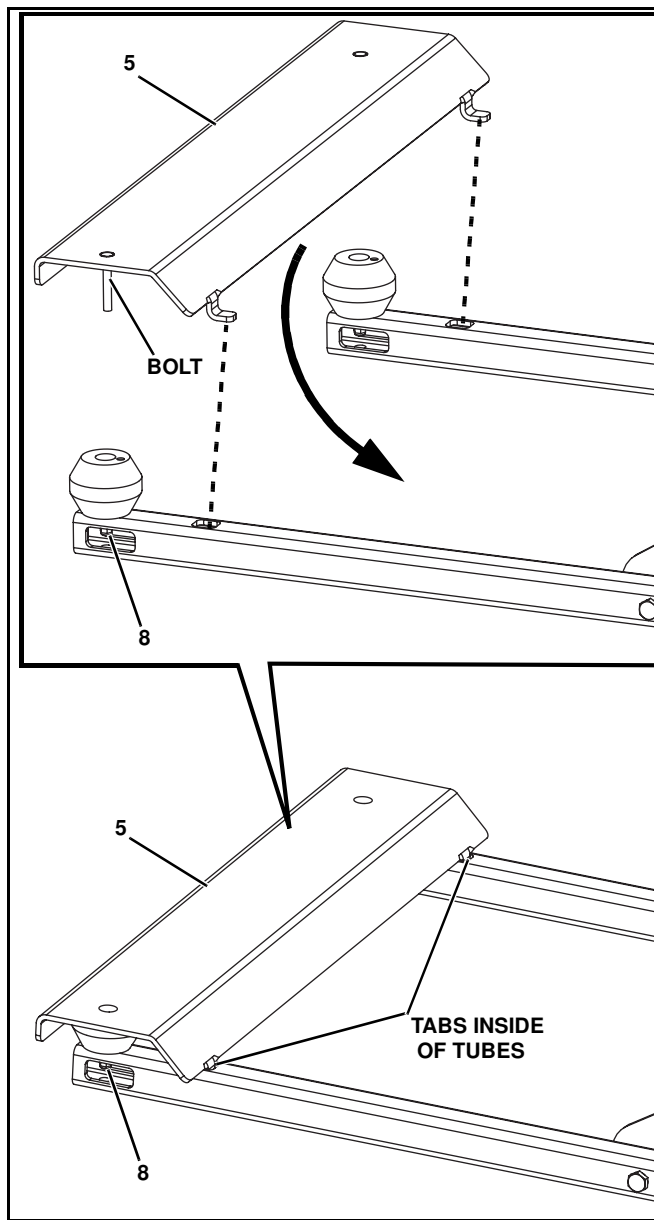

Figure 4
4. Place the blade rest weldment (#5) in place. (See Figure 4.) Install and tighten (2) 3/8"-16 nylock nuts (#8) on assembly bolts inside support tube.